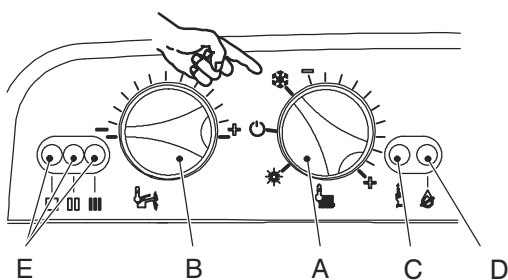

Fig. 9.6
- 1 Turn the boiler ON positioning the function selector knob A as indicated in Fig. 9.6.